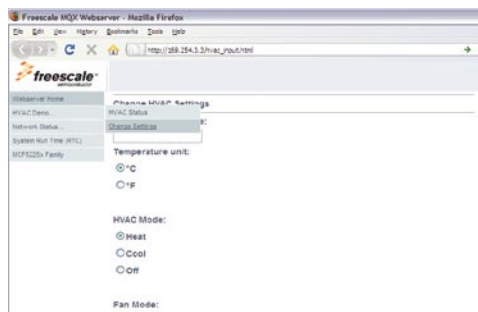

Figure 5: Change HVAC setting via Website.
- Navigate to the HVAC control page by moving your mouse over the HVAC Demo link on the left hand side, and selecting the “Change Settings” link. You can change the HVAC settings via that Web page. Figure 5 demonstrates how that web page will look.